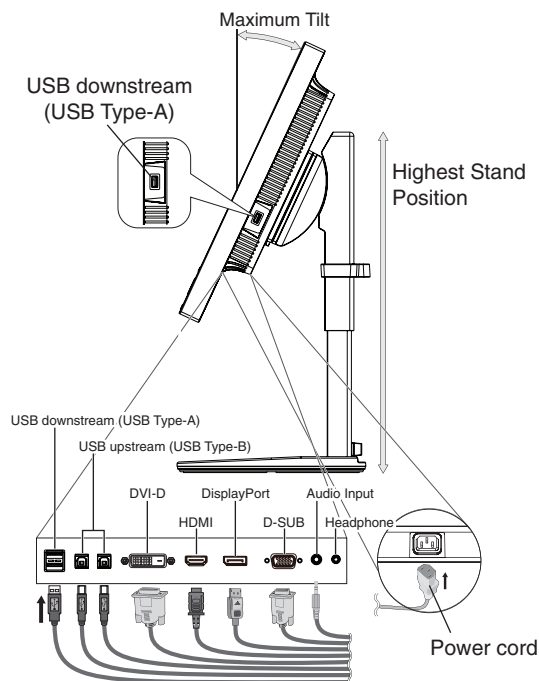
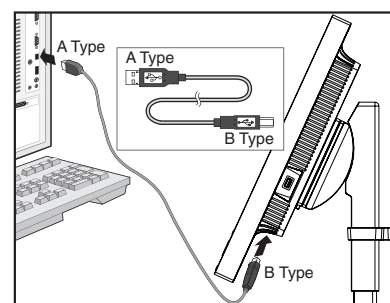

Figure C.1
Figure C.1a
- Connect all cables to the appropriate connectors (**Figure C.1**). When using a USB cable, connect the B type connector to the USB upstream port on the rear side of the monitor and the A type connector to the downstream port on the computer (**Figure C.1a**). If using the cord from a USB device, plug it into one of the downstream ports of the monitor.